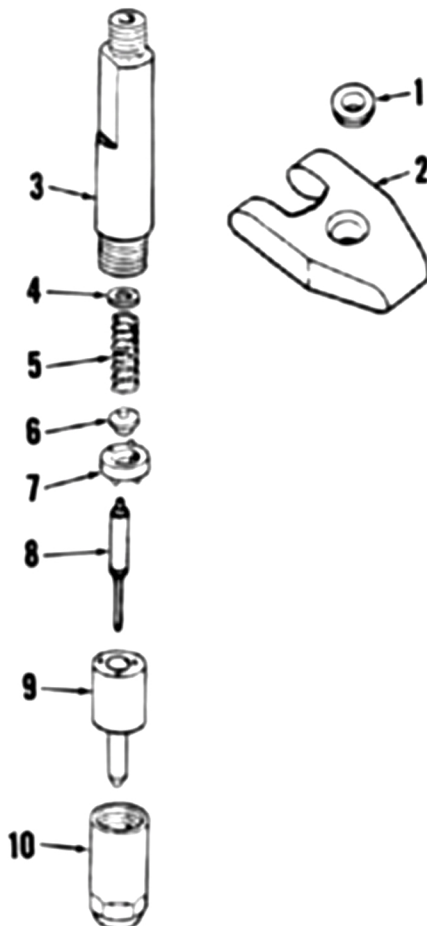

Fig. 50—Exploded view of Robert Bosch injector nozzle assembly used on all models.
62. OVERHAUL. To disassemble the injector, clamp flats of nozzle body (3—Fig. 50) in a vise with nozzle tip pointing upward. Remove nozzle holder nut (10). Remove nozzle tip (9) with valve (8) and spacer (7). Invert nozzle body (3) and remove spring seat (6), spring (5) and shims (4).